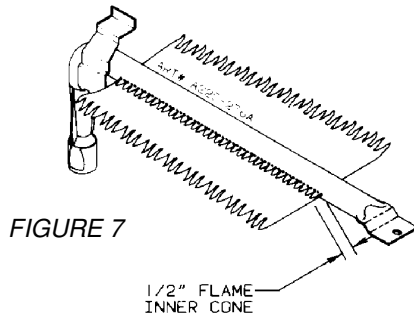

FIGURE 7
- a. The approximate length of the flame of oven burner is a 1/2 inch distinct inner blue flame, figure 7.